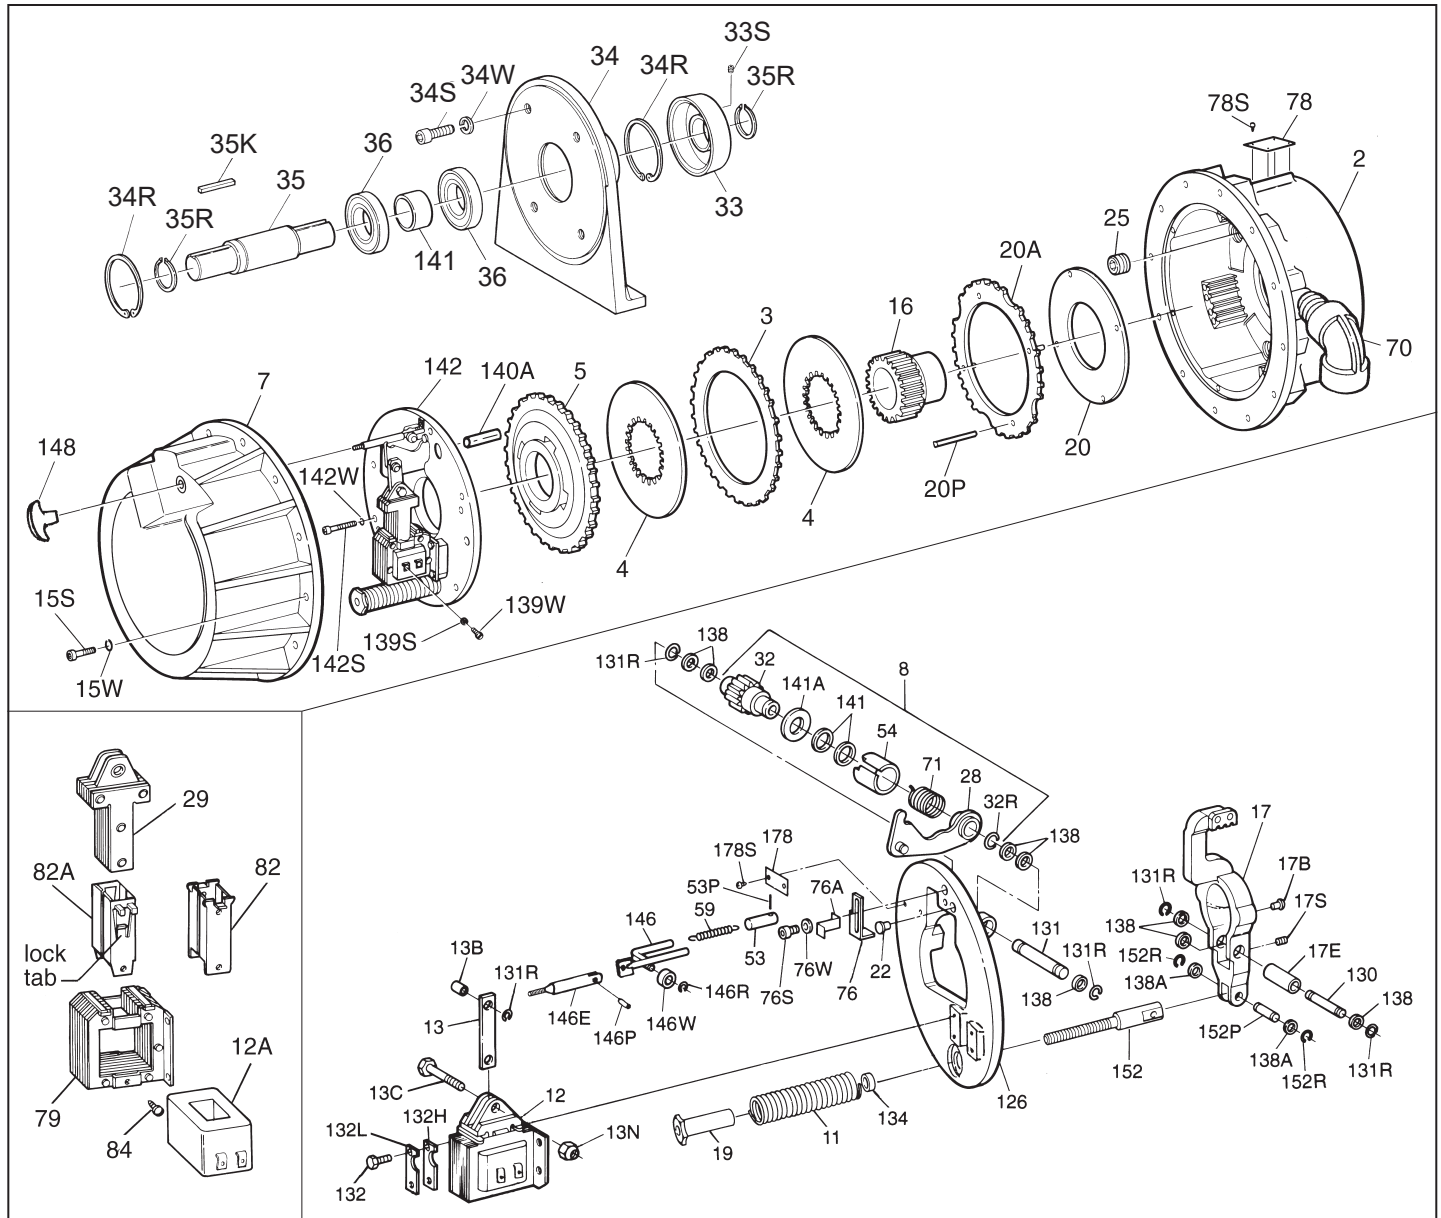

Figure 1
I. Installation Procedure (See Figure 1)